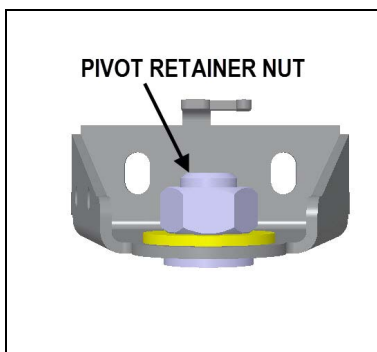

Fig.29
15. On the upper pivot bracket, *slightly* loosen the pivot pin retainer nut so the retainer can freely slide back and forth in the bracket as shown in the illustrations below (Fig.29, 30 & 31).